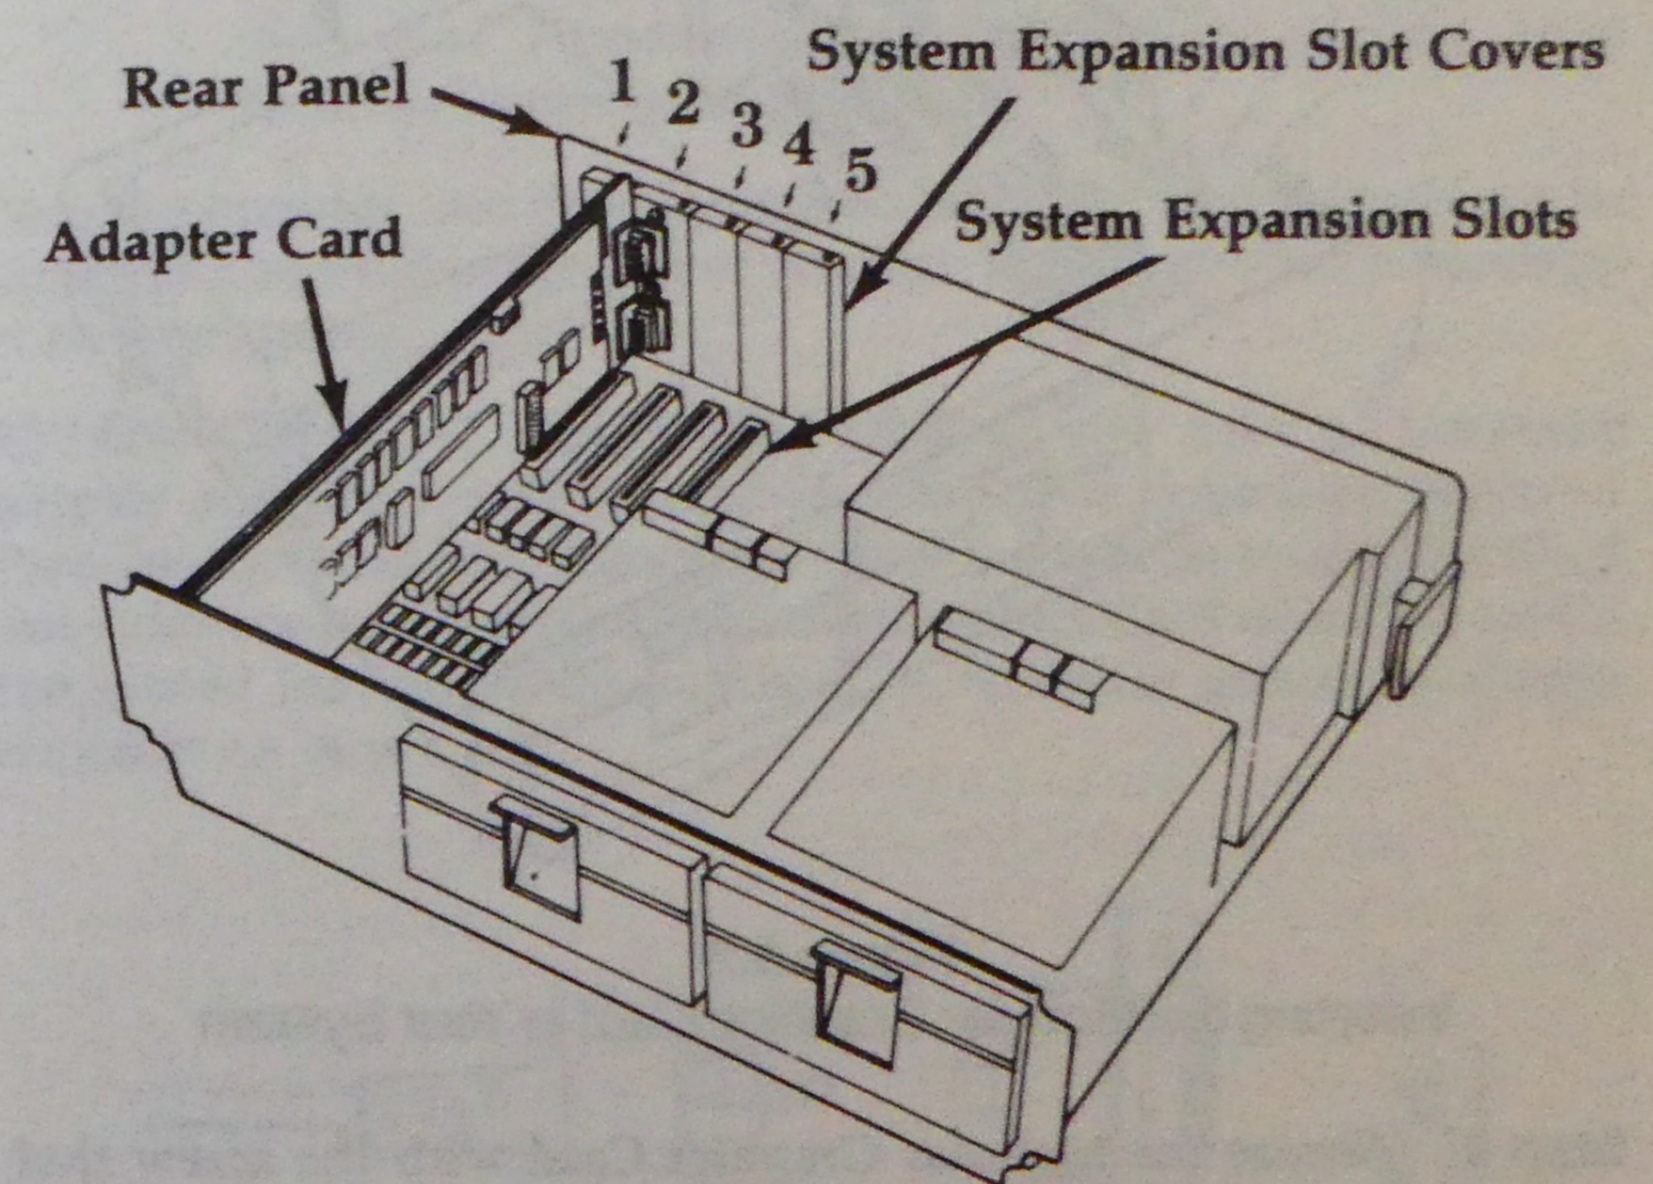

Figure 5.1
- Step 1.** Refer to Figure 5.1. If necessary, remove a system expansion slot cover by removing its retaining screw and lifting it out. Save the screw.